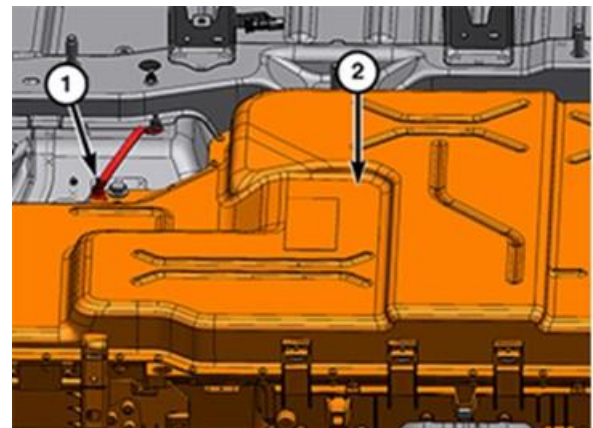

Figure 29 – HV Battery Fastener and Ground Cable
- 53. Remove the fastener (1) and the chassis ground cable from the HV battery (2) (Figure 29).
66. Install the chassis ground cable to the HV battery ground stud (1) and tighten to 9N·m (80 in. lbs.) (Figure 29).